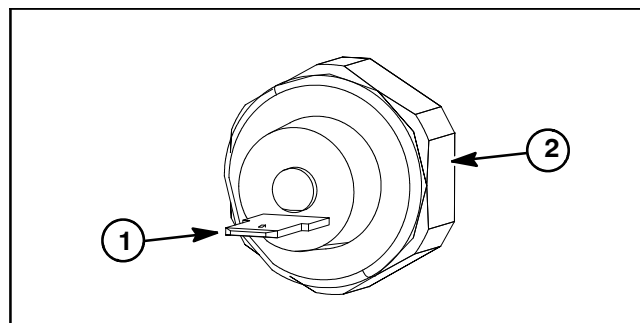

Figure 78
3. Use a digital multimeter to measure continuity between the oil pressure switch terminal and the switch base (ground connection) (Fig. 78).